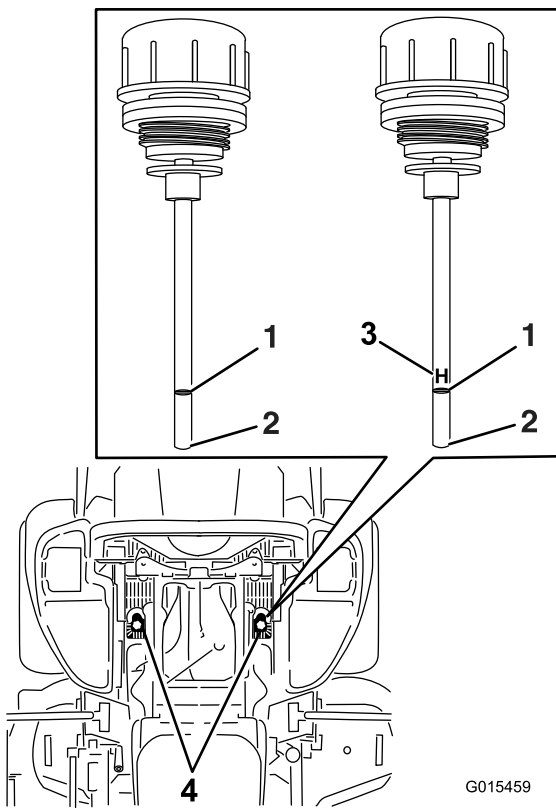

Figure 88
6. Clean the area around the dipsticks of hydraulic-system reservoirs (Figure 88).
7. Remove one dipstick from the hydraulic reservoir (Figure 88).
9. Remove the dipstick and look at the end (Figure 88).